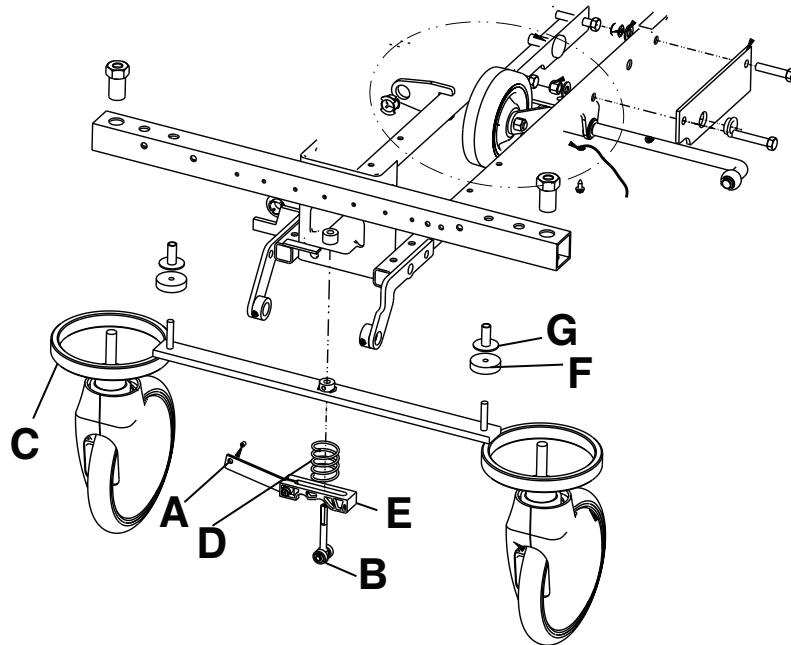

Figure 4 – Brake ring replacement
5. Using a 3/32" hex wrench, loosen the set screw (A) that holds the brake adjuster (B) to the brake ring (C) (Figure 4). Turn the adjuster clockwise to remove the adjuster.
9. Using needle nose pliers, squeeze and remove the compressed spring (D) between the brake cam (E) and the brake ring (C) if you are working on the head end or foot end brake control (Figure 4).
10. Lower the brake ring (C) and remove the brake ring from the base (Figure 4).
11. Remove the brake pads (F) and bushings (G) (Figure 4). Install the brake pads and bushings on the supplied brake rings.